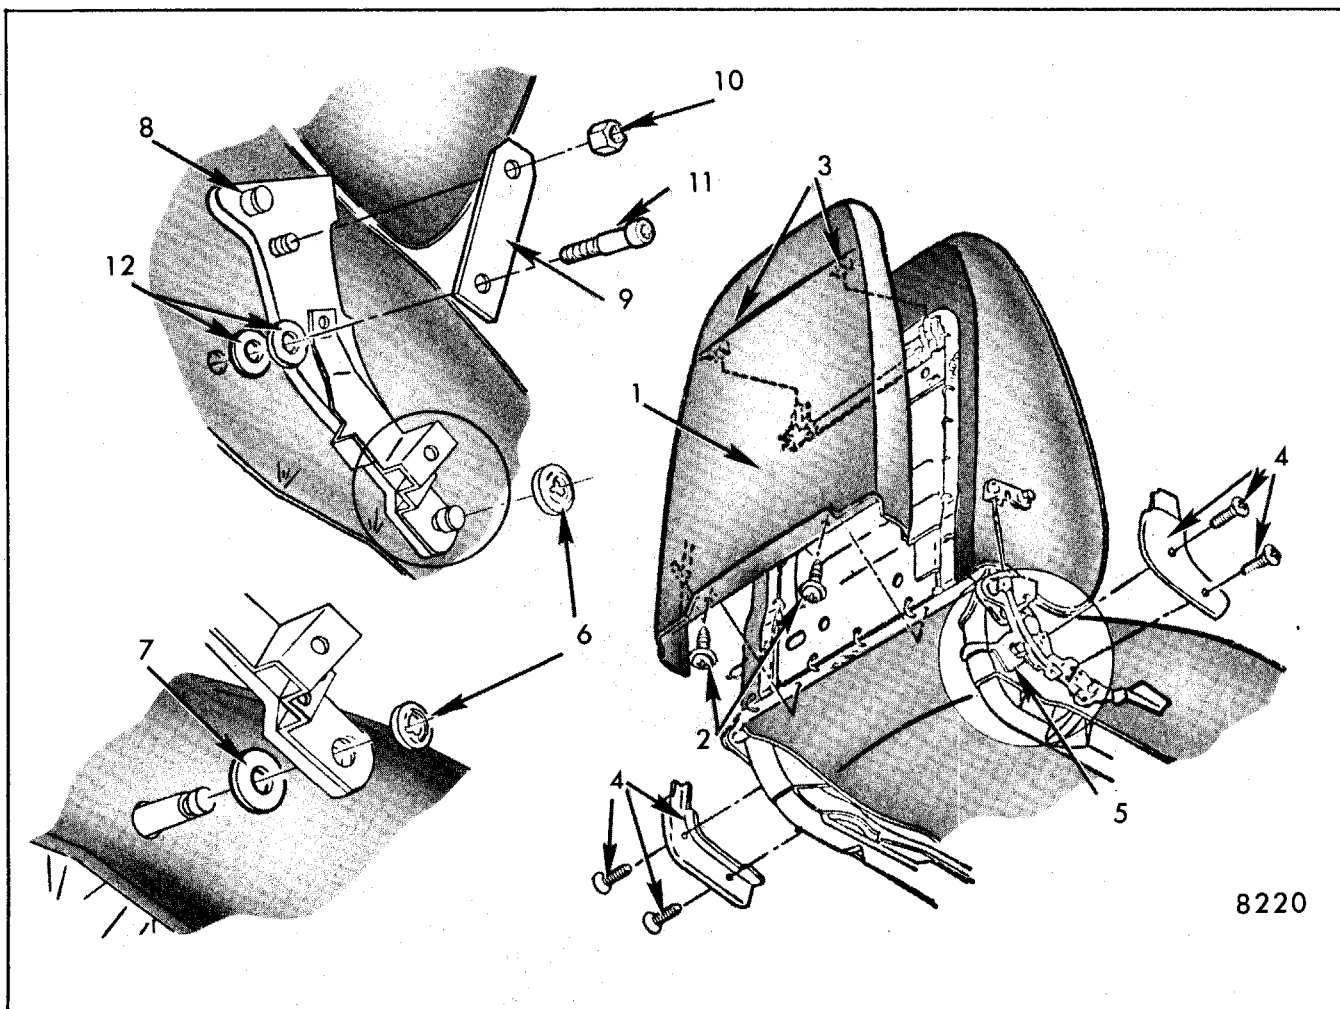
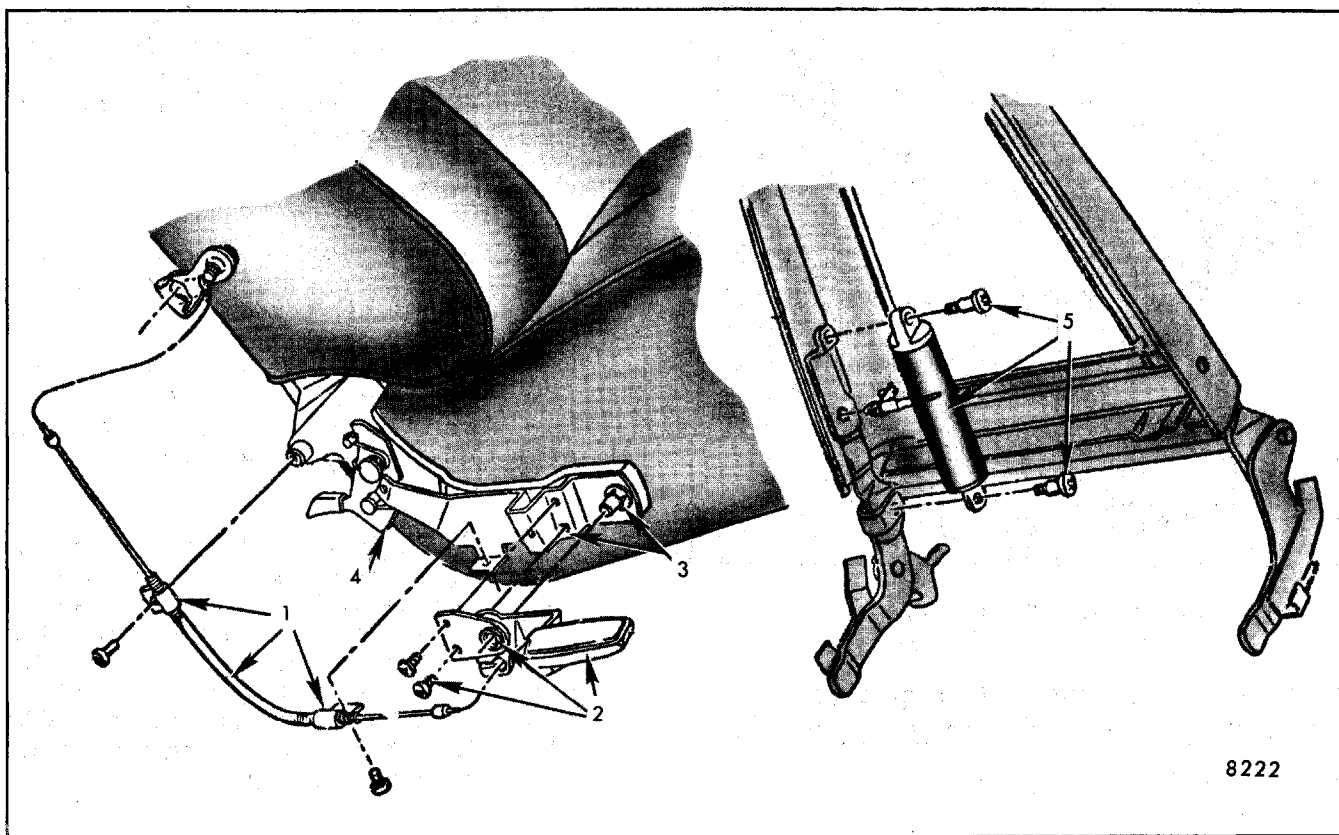

Fig. 9-47-Custom Bucket Seat Back - Passenger Seat Shown
Fig. 9-48-Custom Bucket Seat Back Reclining Actuator Assembly and Remote Control - Passenger Seat
Custom Bucket Seat Back Panels - Removal and Installation (Refer to Fig. 9-47)
2. Remove seat side lower panel as previously described (see Fig. 9-47).
3. Remove reclining control handle and cable attaching screws (Fig. 9-48) and detach handle from hinge pin.
4. Remove seat back hinge arm retainer (Fig. 9-48) on both sides of seat.
1. To remove reclining actuator control handle, remove seat back upper and lower panels (Fig. 9-47). Remove reclining control handle attaching screws (Fig. 9-48), disengage handle from control cable and remove handle.
2. To remove remote control cable, remove seat back upper and lower panels (Fig. 9-47); then remove cable upper support screw and disengage remote cable from reclining actuator arm (Fig. 9-48). Remove remote cable lower support,
disengage cable from control handle (Fig. 9-48) and remove cable from seat.